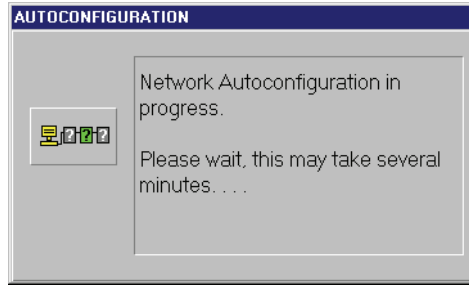

Figure 2-38: Autoconfiguration in Progress
5. Once communication has been established, the Autoconfiguration window appears indicating data is being transferred to the host computer (see Figure 2-38 on page 33 of this section).